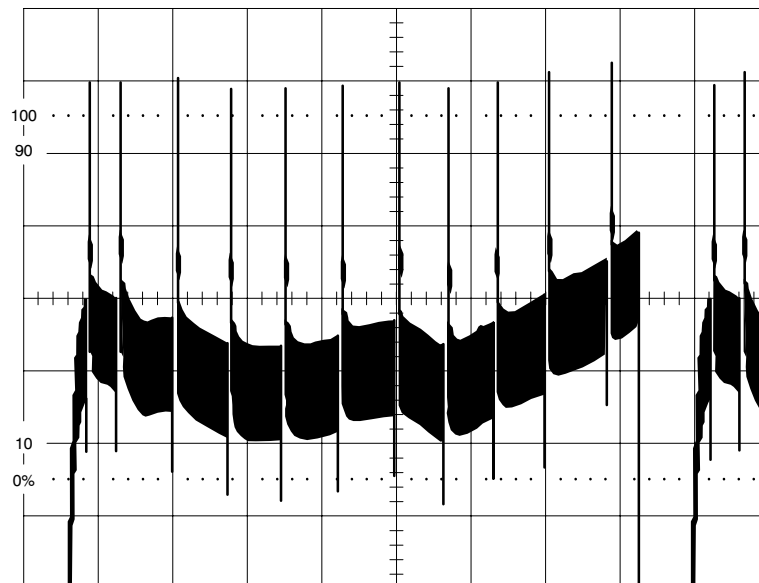

Figure 5–11: Frequency response display
7. Measure the sweep envelope. See Figure 5–11.